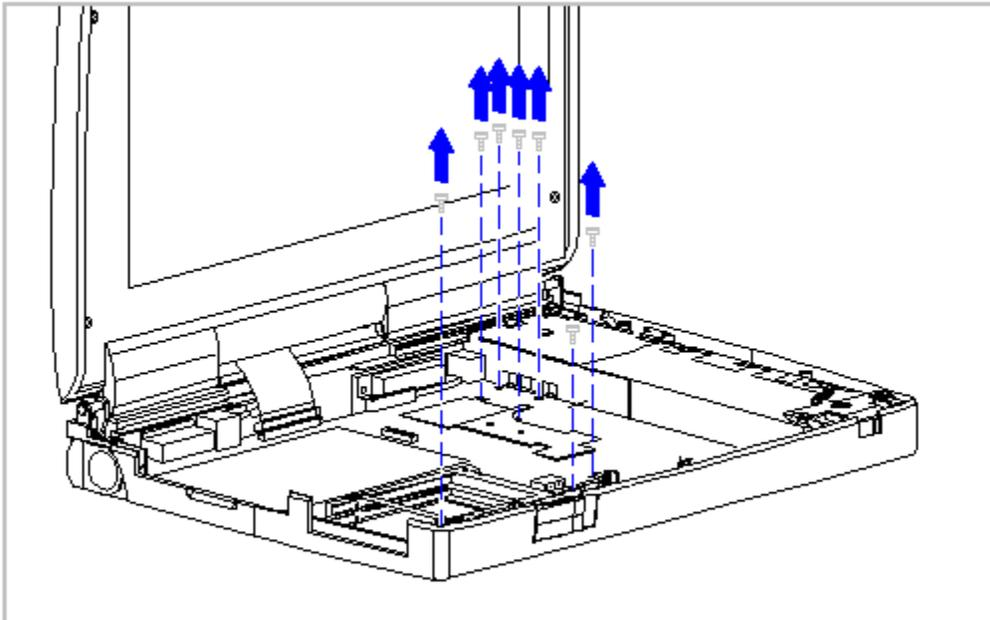

Figure 5-48. Removing the Five System Board and the Two Battery Contact Screws
13. Remove the five screws from the system board and the two screws from the battery contact (Figure 5-48).